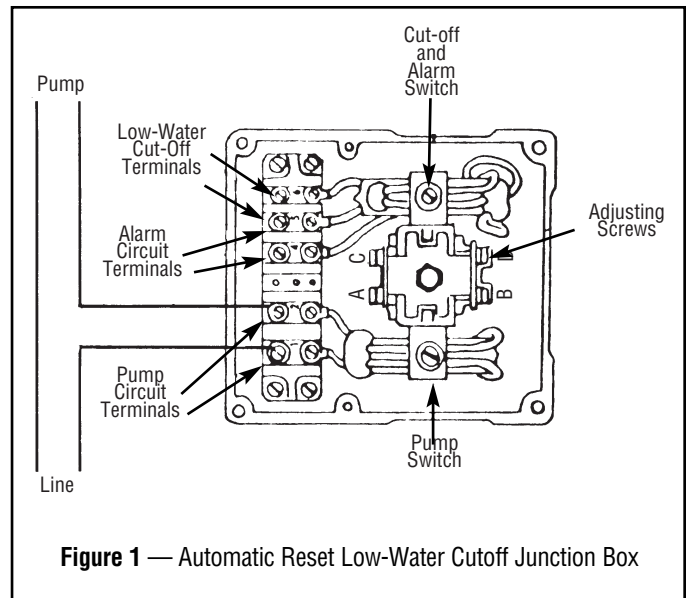

Figure 1 — Automatic Reset Low-Water Cutoff Junction Box
2. **Checking operation of pump switch.** (Figure 1) With water level visible in sight glass, partially open drain valve at bottom of boiler. If automatic blowdown supplied, push manual blowdown switch until valve open light is on, hold for few seconds. Water level will fall, allowing float to trip pump switch to "ON" position. Close drain valve or release manual blowdown switch. Pump motor or solenoid valve will energize and water level will resume to normal level in sight glass.